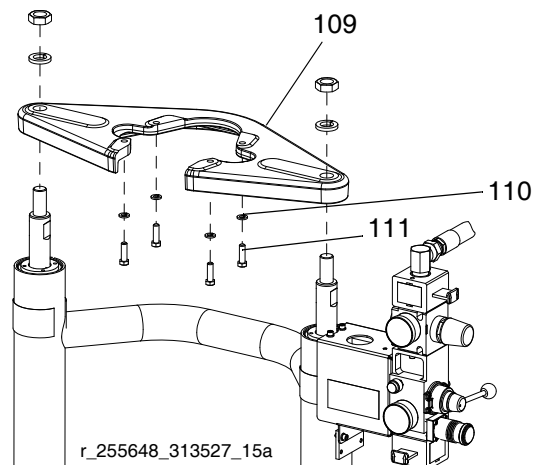

Fig. 27: NXT on D60 with Ram
- b. *For NXT with smaller platen:* If the motor was removed, tighten set screws (111) and washers (110) on mounting bracket (109). See FIG. 27 on page 27.
1. Using a secure hoist, attach motor to mounting plate (109) with screws (111) and washers (110). See FIG. 27 on page 27.